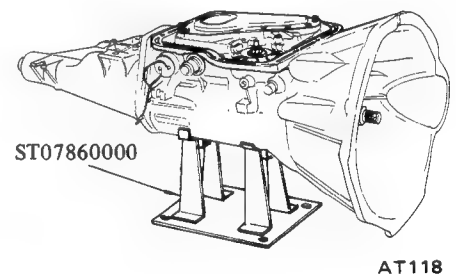

Fig. AT-52 Removing oil pan
1. Drain oil from the end of rear extension. Mount transmission on Transmission Case Stand ST07860000 or ST07870000. Remove oil pan. See Figure AT-52.